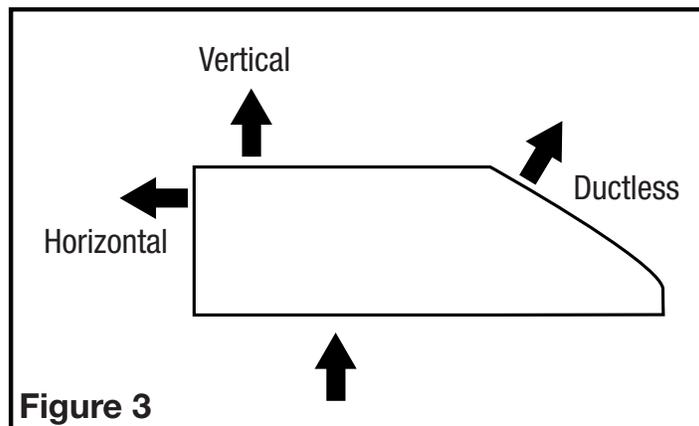

Figure 3
1. Choose the type of ducting you will require. To ensure the best air and sound performance, it is recommended that the length of ducting and the number of elbows be kept to a minimum, the radius of each elbow be as large as possible for the installation, and that hard ducting be used. Larger duct sizes will reduce noise and airflow restrictions. This model is equipped to vent either Vertically or Horizontally through a 3-1/4" x 10" duct or through a 7" round duct. It can be modified to be ductless (re-circulates the air back into the kitchen) with the addition of a model CF-09S Charcoal Filter (not included) (**Figure 3**).